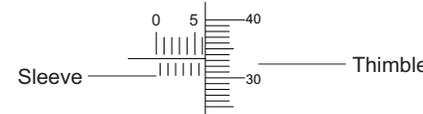

Fig 1
- Tighten the locking nut, use zeroing spanner to rotate sleeve (Fig.1), adjust the reading to zero.